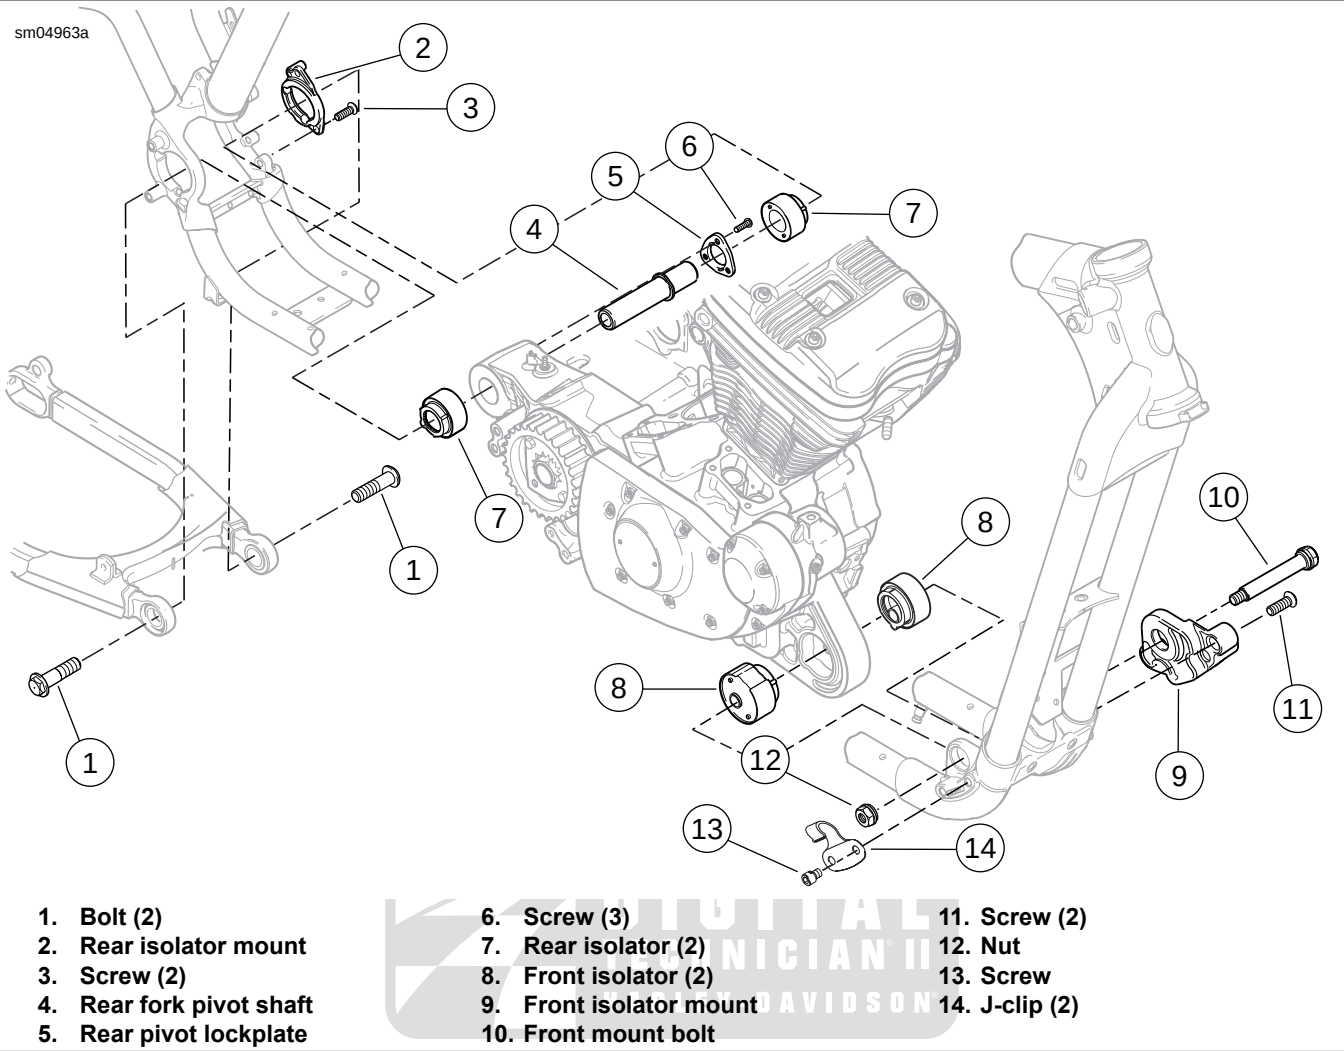

Figure 3-17. Engine Mount/Isolator Components (typical)
37. See Figure 3-17. Remove fasteners (13) and J-clip (14) from each side of frame.
38. Loosen, but do not remove, two front isolator mounting bracket screws (11) on left side of engine.
39. Loosen, but do not remove, two rear isolator mounting bracket screws (3) on left side of engine.
41. Remove front engine mount bolt (10) and nut (12).
42. Remove two screws (11) and front isolator mount (9).
43. Remove two rear engine mount/rear fork pivot bolts (1). Pull rear fork back until fork pivot bosses clear the frame.
45. Remove two screws (3) and rear isolator mounting bracket (2) from frame.